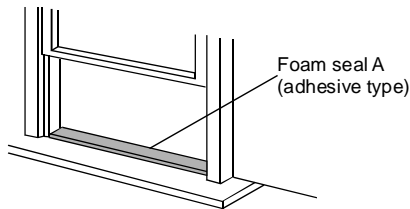

Fig.10
1. Cut the foam seal(adhesive type) to the proper length and attach it to the window stool. Fig.10